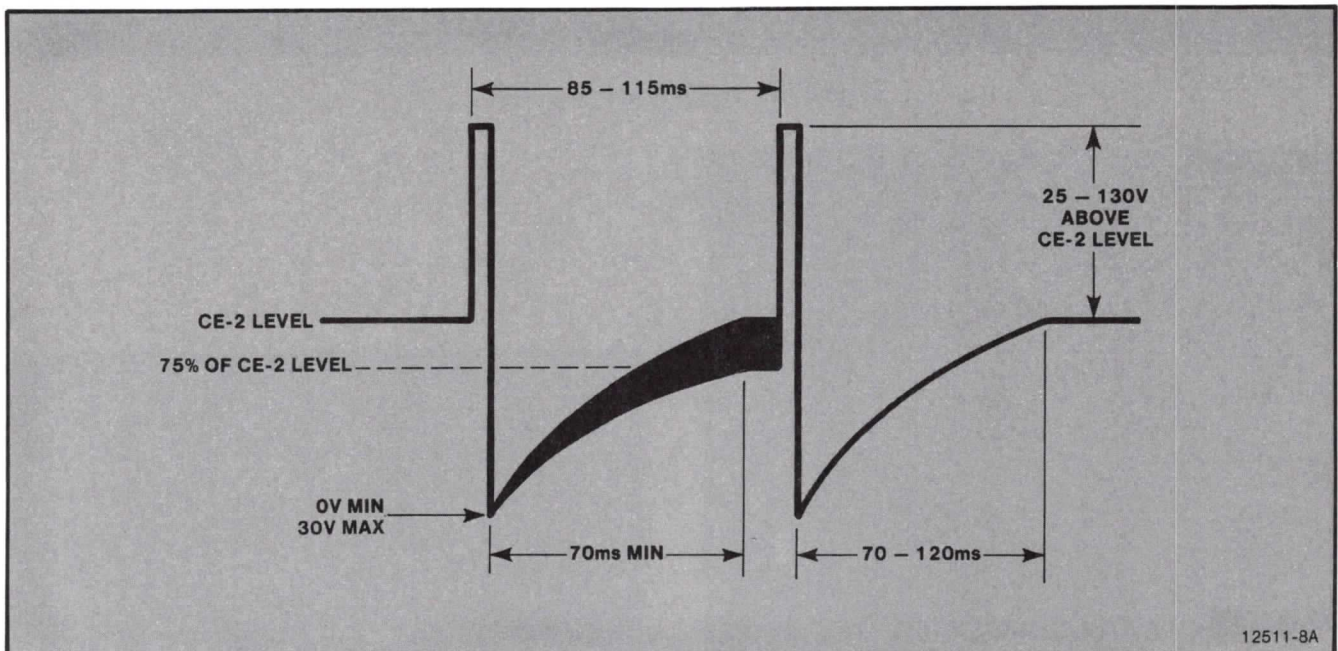

Figure 4-9. CE-2 Waveform.
- c. CHECK — for the CE-2 waveform at TP 93 and verify that its shape conforms to the waveform in Figure 4-9.